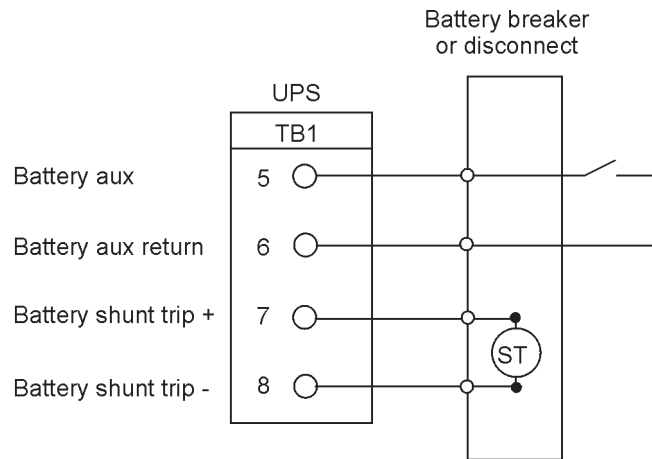

Figure 4-10. Typical battery interface connection
8. To locate the appropriate terminals and review the wiring and termination requirements, see Table 4-1 on page 52, and Figure 4-8 through Figure 4-10.